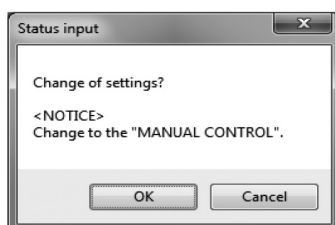

Fig.59
- ⑤ For the status input, it is possible to select from the following two types: A contact point input or B contact point input.
- ⑥ After all settings are complete, click the "OK" button to display a message box (Fig. 59). Click "OK" here to change the settings to the inputted values, and to reflect the changed setting values in the flowmeter's output. For the sake of safety, if the flowmeter's output is used to control valves or other such parts, then change that control loop to manual control so that the control loop is not influenced by the flowmeter's output